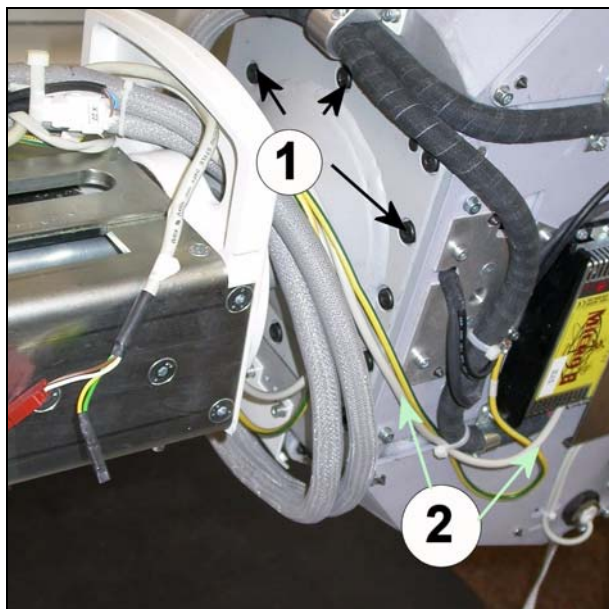

Fig. 21
- Loosen the cable module from the flange (12 screws (1/Fig. 21)).
- Loosen the ground wire connection on the cable module and the ST1 connector of the cable module electronic unit (2/Fig. 21). Cut open the corresponding cable ties.
- Loosen the new flange from the new cable module (12 screws (Fig. 21)).